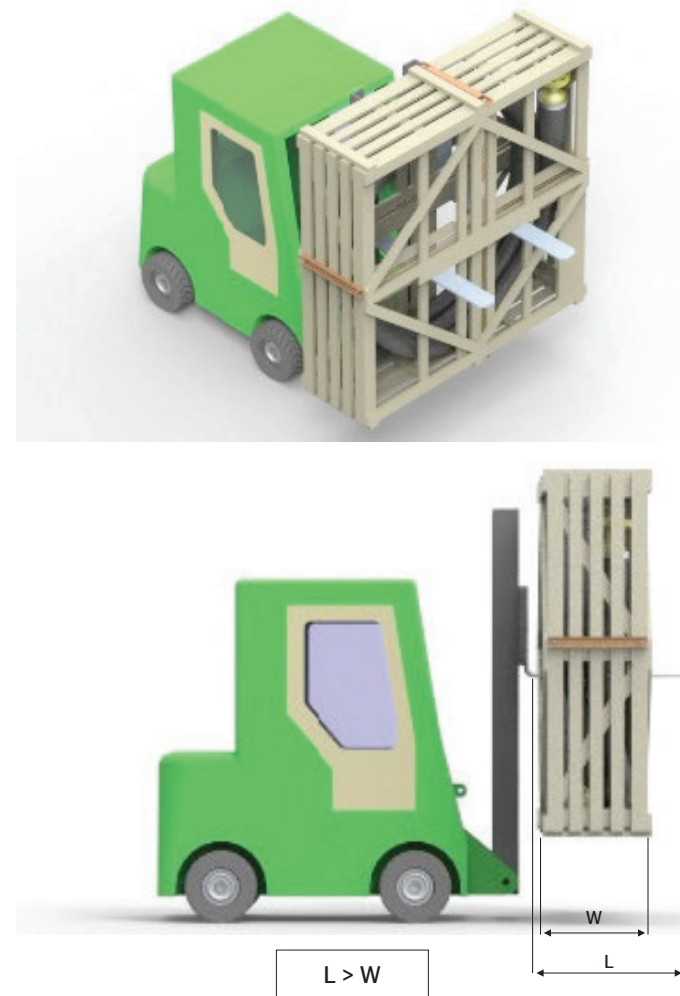

Fig. 10 Lifting wooden crate by forklift
- Using a forklift truck: lift up the crate under the horizontal stiffeners in the center of the crate. The forklift's forks must be longer than the width of crate ($L > W$), see Fig. 10.